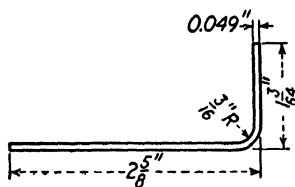

Fig. 255.
4. What is the over-all length of the flat pattern of the fitting shown in Fig. 255? The angle of bend is 90°.